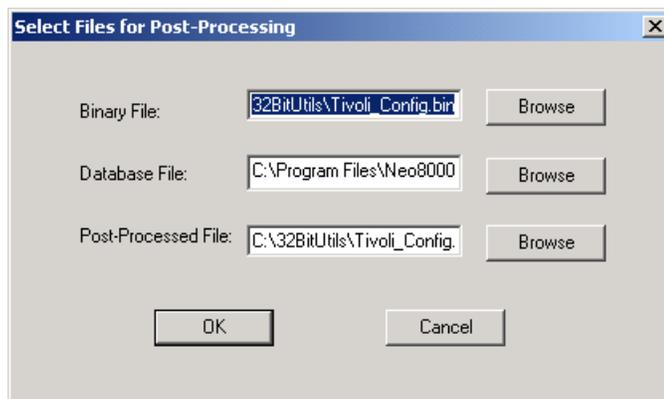

Figure 7-20: Post-Process Select Files Screen
4. Choose **Post-Process > Select Files** from the Neo8000Center menu. The Select Files screen appears (Figure 7-20).